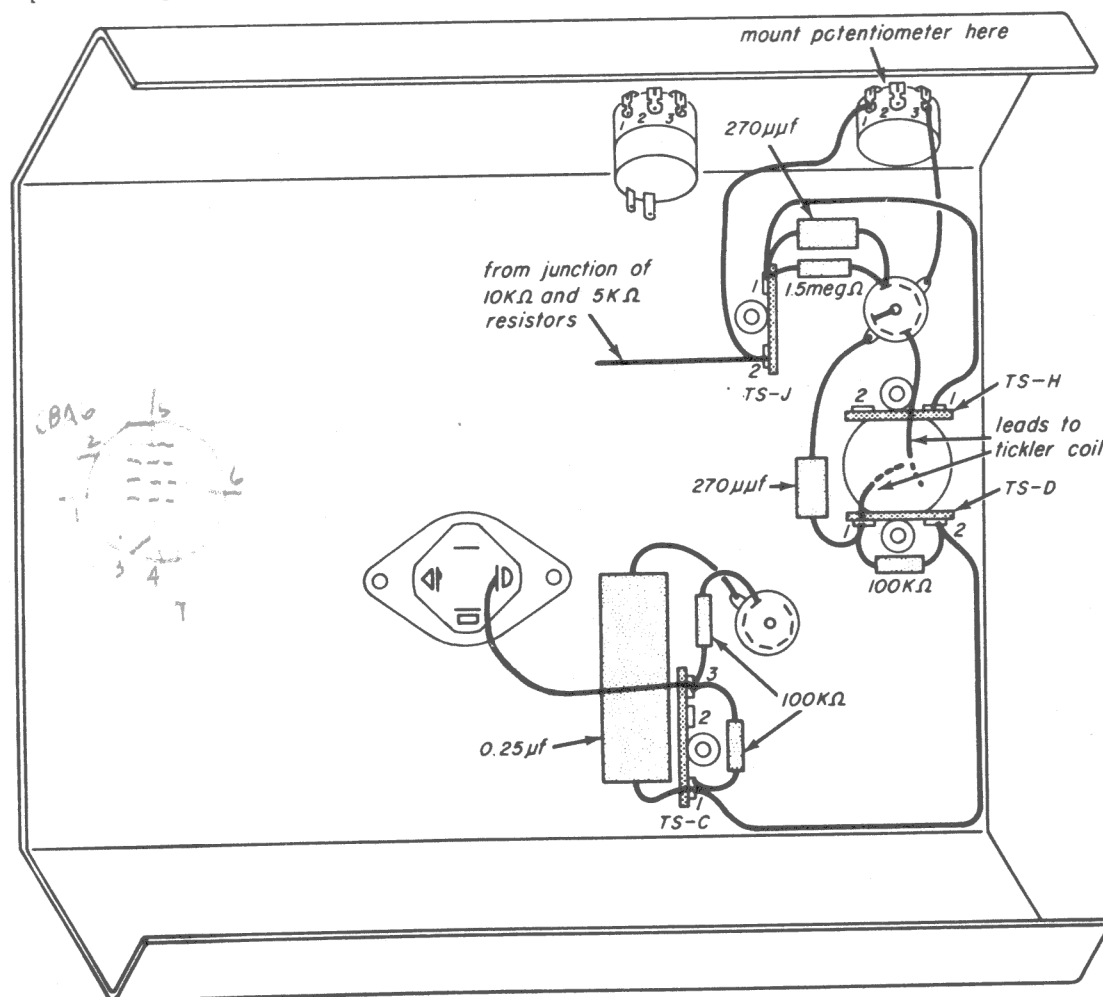
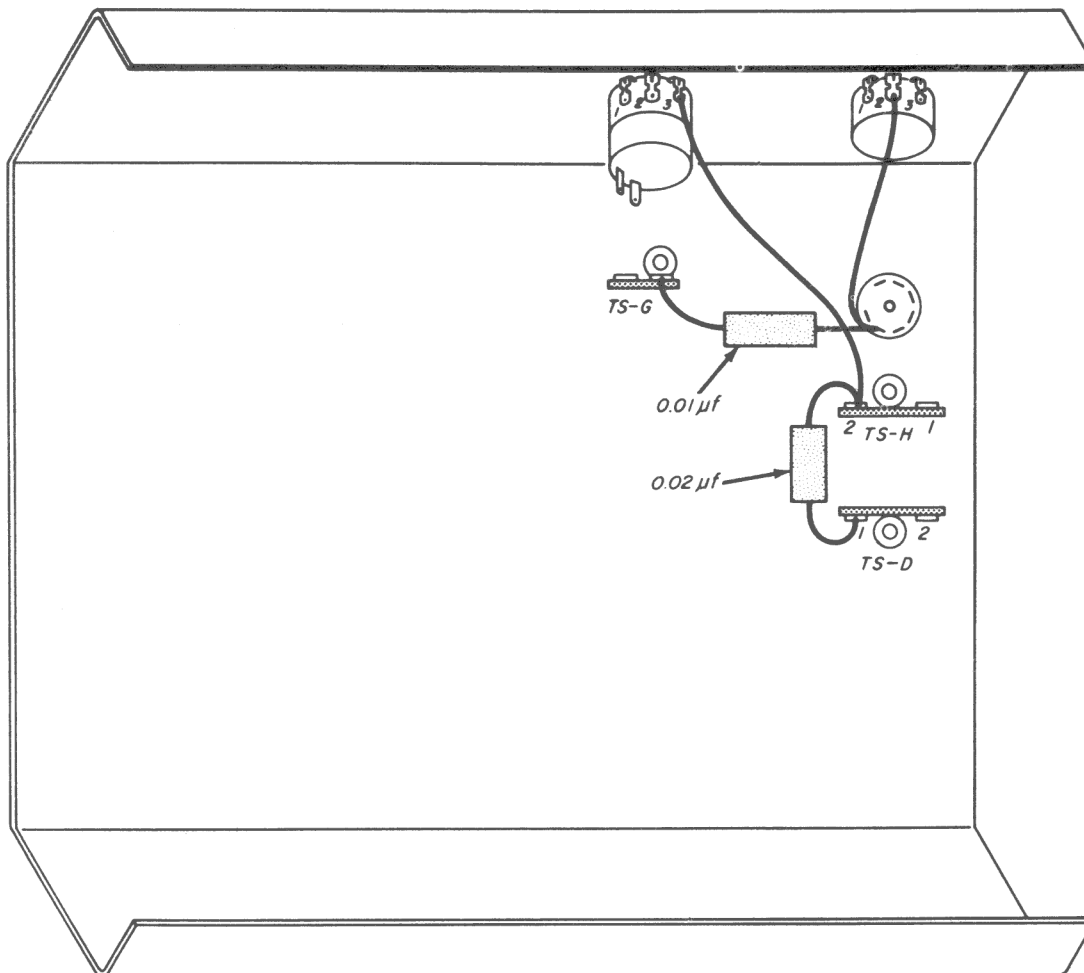
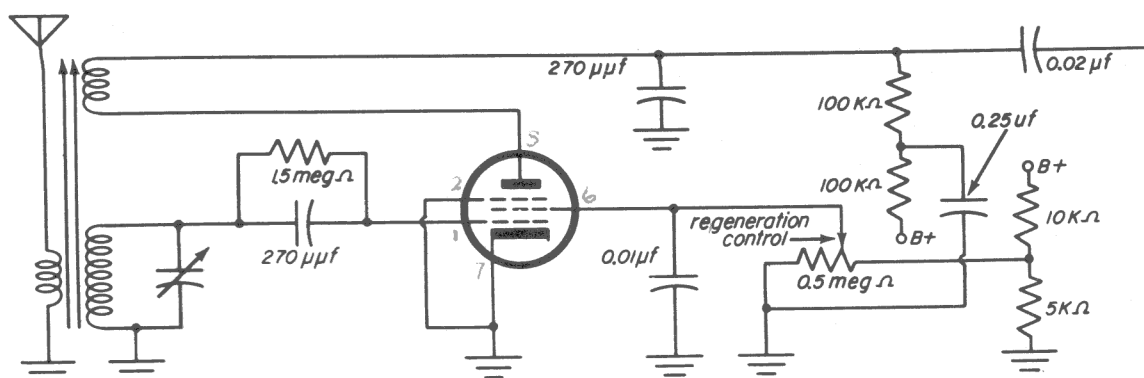

Fig. 28-1
Fig. 28-3
Fig. 28-4
Step 4. Disconnect the 100 k-ohm resistor from pin 5 of the 6BA6 tube, and connect it across lugs 1 and 2 of TS-D, as shown in Fig. 28-1.
Step 16. Mount the 500-k-ohm potentiometer in the proper hole on the chassis as shown in Fig. 28-1. This potentiometer will be used as a *regeneration control* to vary the screen voltage on the 6BA6 tube.
Step 19. Connect a lead between the center terminal of the potentiometer and pin 6 of the 6BA6 tube socket. (The wiring for this and the next 2 steps is shown in Fig. 28-3).
Step 23. Compare your chassis with the schematic diagram of Fig. 28-4 and the wiring diagram of Fig. 28-1 and Fig. 28-3 (your wiring should include all wiring shown on both diagrams, before you proceed).
Discussion. The circuit of the regenerative detector has been shown in Fig. 28-4. As your experiments show, the regenerative detector is an extremely sensitive type of detector. Maximum sensitivity is obtained just before the circuit breaks into oscillation. The increased sensitivity and the oscillation are due to the r-f signal in the plate